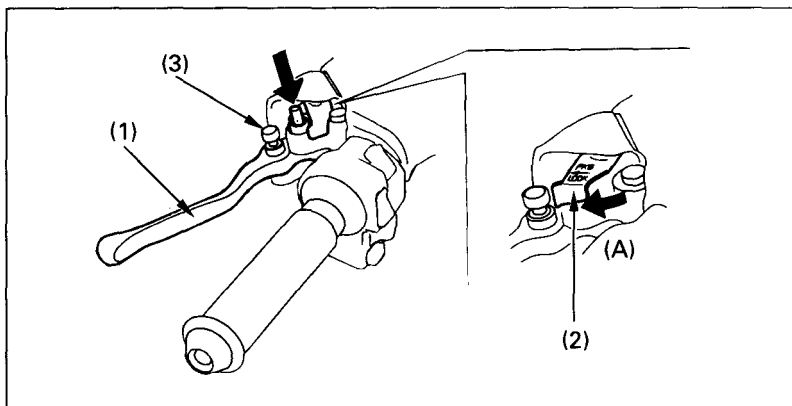

Fig. 2-14
The clutch lever also functions as the parking brake lever (Fig. 2-14). To apply the parking brake, push down the parking brake pin (3), squeeze the clutch lever (1) and lock it with the lock (A). Always apply the parking brake when parking the FOURTRAX or starting the engine. To release the parking brake, squeeze the clutch lever (1) so the lock (2) automatically retracts.